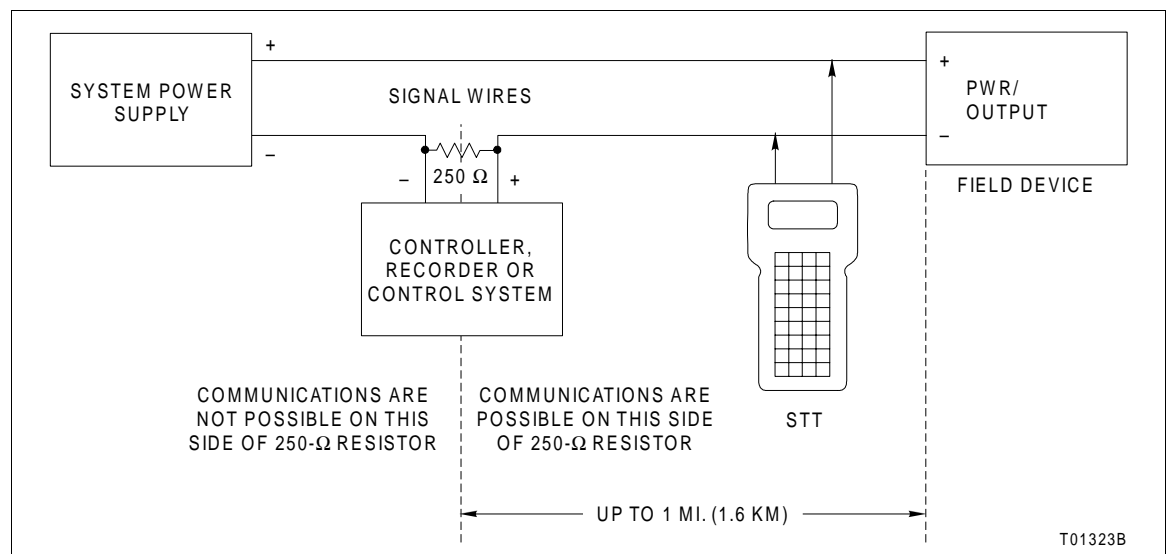

Figure 3-2. Analog Point-to-Point Wiring
2. Connect the clip leads to the signal wires between the device and the 250 ohm resistance. The clip leads connect across the signal leads independent of signal direction or polarity. Refer to Figures 3-2 and 3-3.